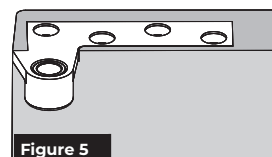

Figure 5
1. Install top pivot door portion using four (4) 1/4-20 x 5/8" FHMS or #14 x 1-1/2" FHWS screws provided. (Figure 5)